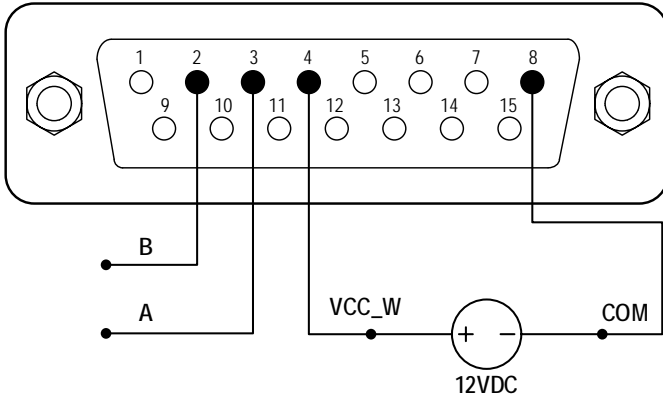

Figure 44. RS485 MODBUS Wiring
- 1) Power off the device. Wire the DB15 connector as shown on Figure 44, and connect it to the DB15 port located at the rear of the pump. It is recommended to use an external DC power source to minimize electrical interference.